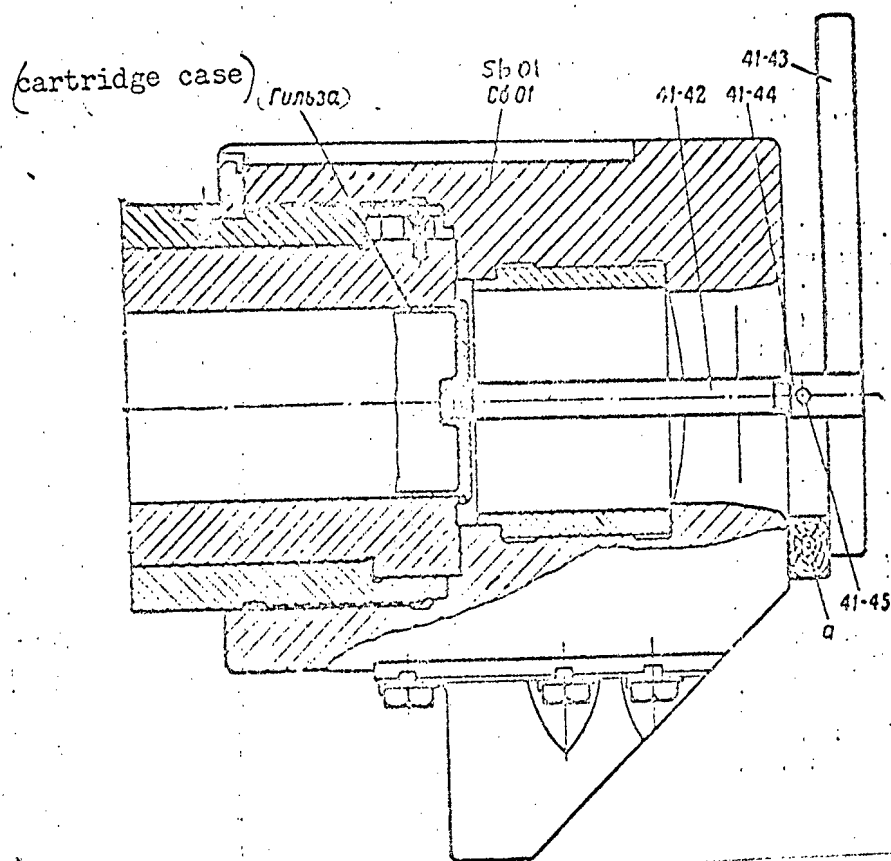

Fig. 108. Arrangement for Removing a Cartridge Case With the Hand
The hand extractor (Fig. 108) is used to remove a cartridge case from the chamber when it is not expelled by the ordinary method (opening the breech) because of swelling or some other reason.
3. Insert handle 41-43 into the eye of the bolt and place wooden block a between the handle and the breech ring (as shown in Fig. 108); by using the handle as a lever, pull the cartridge case out of the chamber.